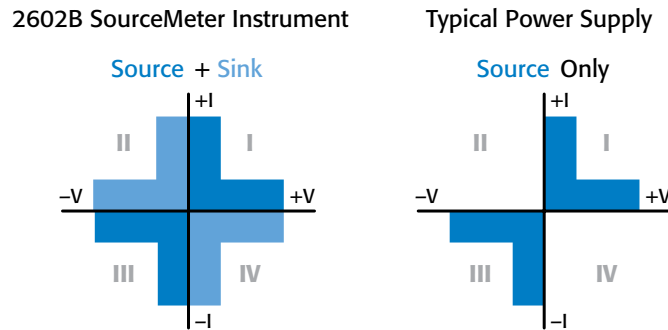

Figure 2. A power supply (right) offers only two-quadrant operation; an SMU instrument (left) can source and sink power in all four quadrants.
- *Four-quadrant rather than two-quadrant operation:* As illustrated in **Figure 2**, a typical power supply can only source voltage and/or current. In other words, it provides only two-quadrant operation (in quadrants I and III), but an SMU can provide full four-quadrant operation because it's capable of sourcing and sinking power, acting as both power supply and an electronic load. During source or sink operation, the SMU can simultaneously measure voltage, current, and resistance. This operating flexibility can be especially valuable when characterizing batteries, solar cells, or other energy-generating devices.